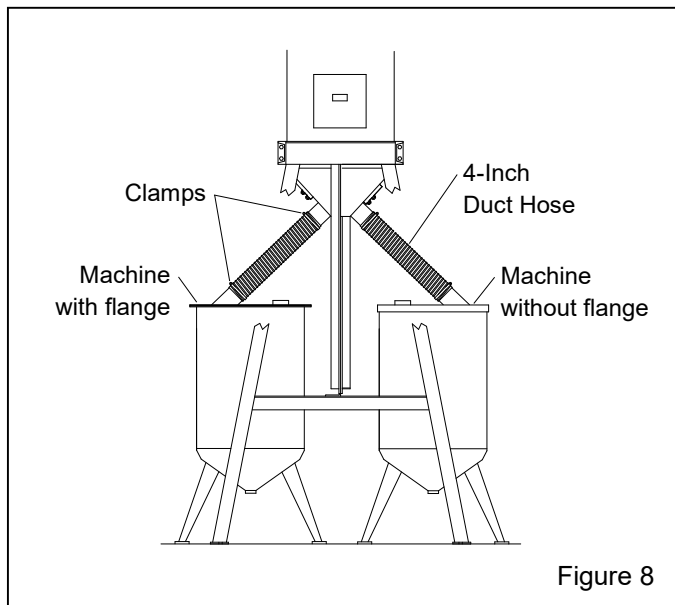

Figure 8
5.1 Place blast machines as shown in Figure 8; position them so the blast hose outlets are facing toward the blast site or blast room so that there will be as few bends as possible in the blast hose.
5.2 Refer to Figure 8 and attach cover as follows.
- **Blast machine with flange:** Place both covers (with gasket attached to the flange) on the machines as shown in Figure 8. Align the bolt holes and secure the cover using the eight 3/8-NC x 1-1/4" cap screws, lock washers, and hex nuts provided.
- **Blast machine without flange:** Place both covers on the machines as shown in Figure 8.